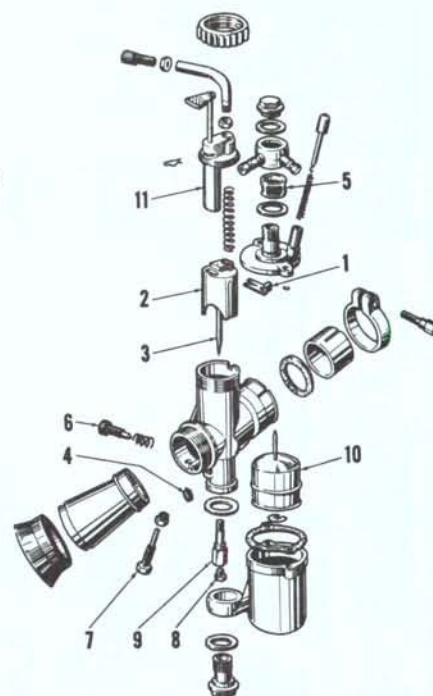

Fig. MG1-1—Exploded view of Del'Orto carburetor used on Sport and Scrambler models. Type used on ISDT is similar.
**CARBURETOR.** Del'Orto UB20B is used on Sport and Scrambler models. Del'Orto UB22BS2 is used on ISDT model. Refer to Fig. MG1-1 and the following specifications: